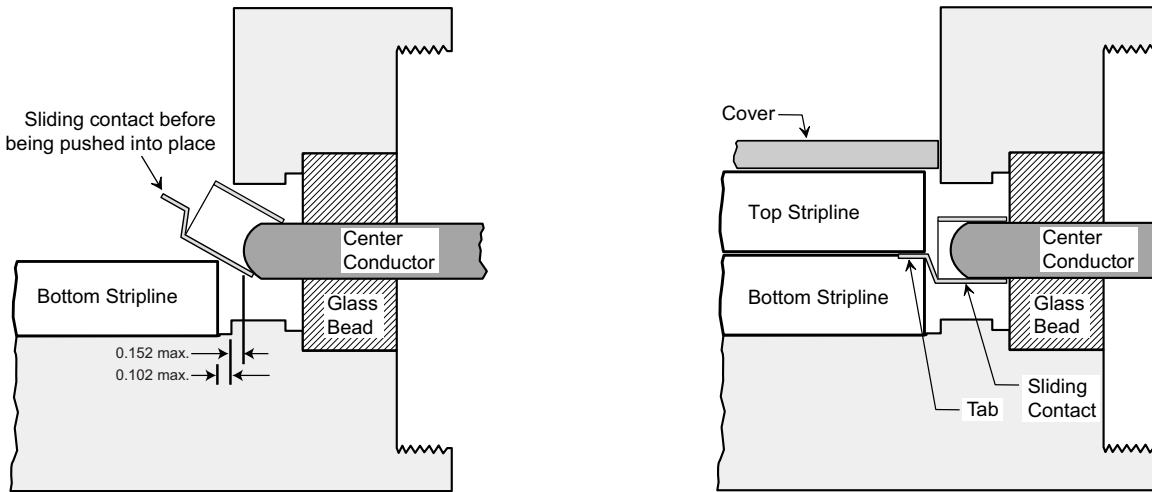

Figure 11-1. **K110-2-R** Sliding Contact Assembly, Method 1
The sliding contacts slip over the pin of the glass bead and mate with the microcircuit as shown in Figure 11-1 on page 11-2. The following is the recommended procedure for installing the sliding contacts and mating them with the microcircuit.
- b. Using the tweezers, place the **K110-2-R** onto the center pin and position as shown below in Figure 11-1, left.
- e. Install the top stripline. The finished assembly should resemble Figure 11-1 below, right.